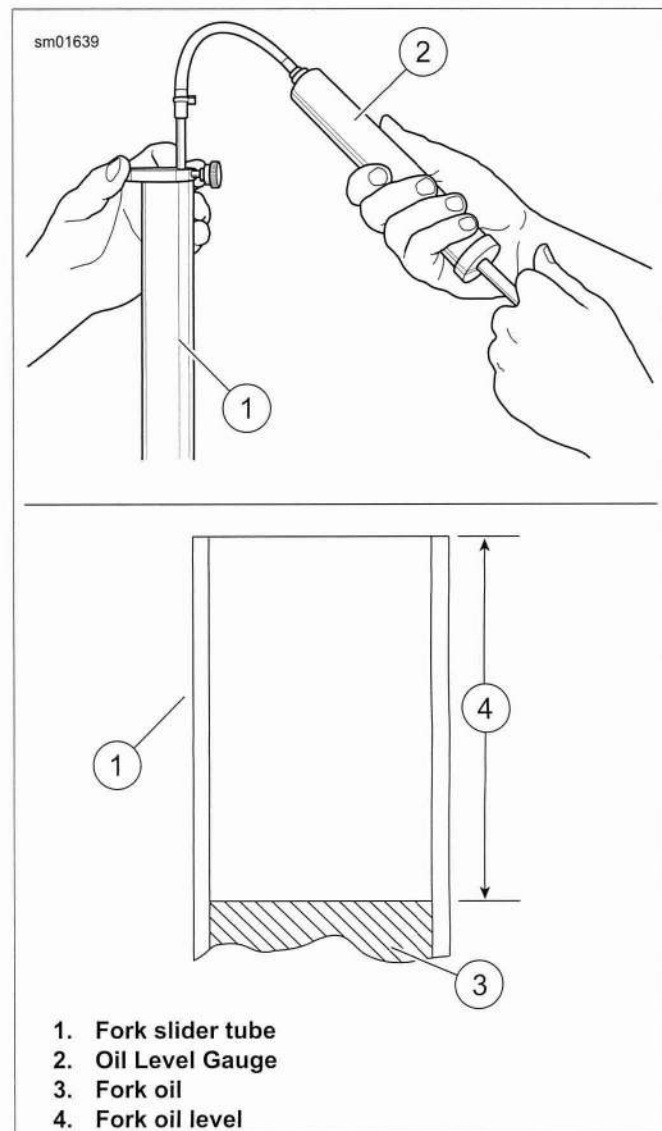

Figure 2-143. Refilling Front Fork Oil
4. See Figure 2-143. Use the OIL LEVEL GAUGE (Part No. HD-59000-B) to draw off excess fork oil until it reaches the level specification. Refer to Table 2-21.